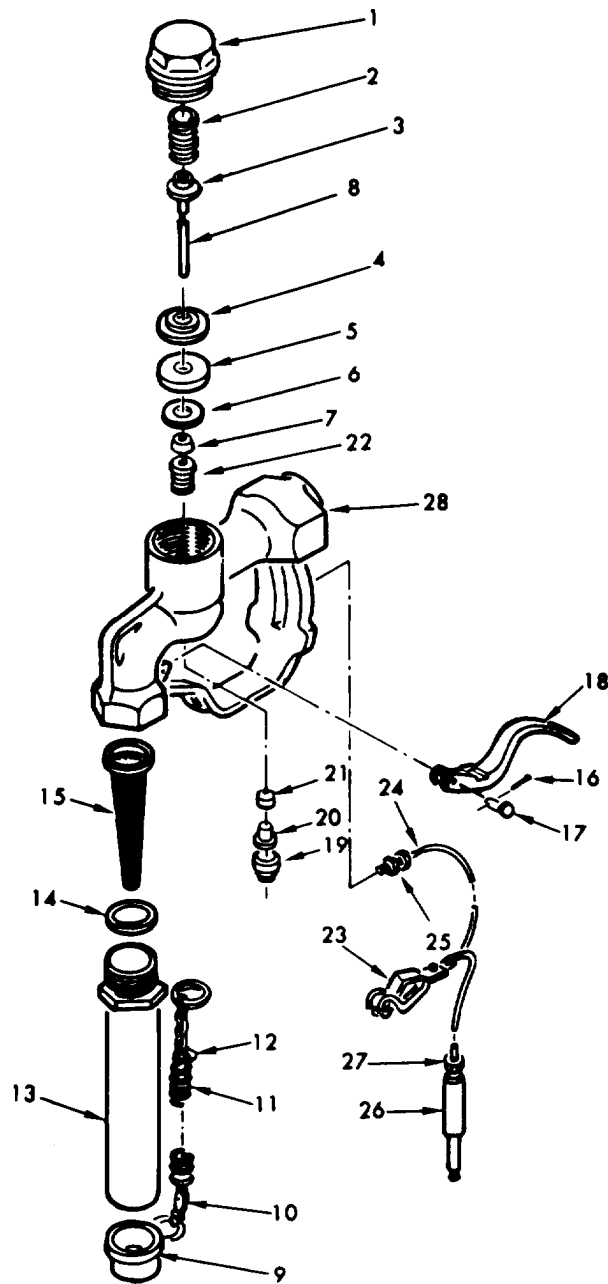

Figure 5-7. Nozzle, Disassembly and Reassembly.
5-7. FUEL DISPENSING NOZZLE**a. Removal. (Figure 5-7)**
- (1) Open nozzles and drain fuel into suitable container.
- (2) Remove nozzles by pulling out on cam arms and disconnecting coupling.
- (3) Remove nozzle bonding wires.
b. Disassembly. (Figure 5-7)
- (1) Remove cap (1), spring (2) upper poppet (3), disk holder (4), disk (5), washer disk (6), nut (7), and stem (8).
- (2) Remove dust cap (9), chain (10), spring (11), and hook (12).
- (3) Remove spout (13), gasket (14), and strainer (15).
- (4) Remove cotter pin (16), pin (17), and lever (18).
- (5) Remove packing nut (19), nut (20), packing (21), and guide (22).
- (6) Remove clip (23), wire (24), nut (25), plug (26), and nut (27) from body (28).
- (1) Clean parts in drycleaning solvent (Item 1, App. E)
- (2) Dry all parts thoroughly.
- (3) Inspect the spring for cracks and rust.
- (4) Inspect the upper poppet for damage.
- (5) Inspect the disk and washer disk for distortion.
- (6) Inspect the washer disk for excessive groove caused by wear and for splits or tears.
- (7) Inspect the body for cracks, breaks, dents, distortion, and damaged threads.
- (8) Inspect other parts for damage.
- (9) Replace all defective parts.
d. Reassembly. (Figure 5-7)
- (1) Assemble clip (23), wire (24), nut (25), plug (26), and nut (27), and attach to body (28).
- (2) Install guide (22), packing (21), nut (20), and packing nut (19).
- (3) Install lever (18), pin (17), and cotter pin (16).
- (4) Install strainer (15), gasket (14), and spout (13).
- (5) Install hook (12), spring (11), chain (10), and dust cap (9).
- (6) Assemble and install stem (8), nut (7), washer disk (6), disk (5), disk holder (4), upper poppet (3), spring (2), and cap (1).
- (1) Install nozzle bonding wires (figure 5-7).
- (2) Install nozzles by connecting couplings and closing cam arms.